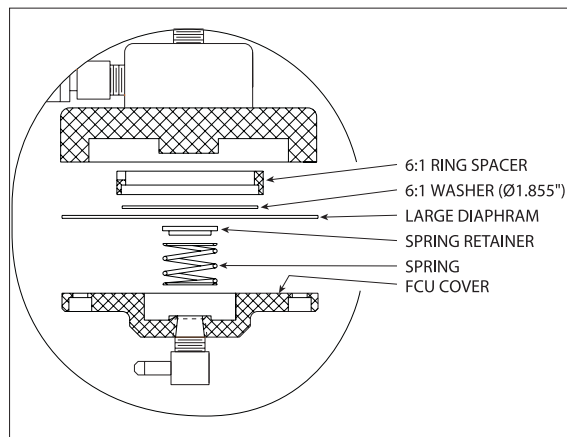

Fig. 7.1-a
- F. Place the spring retainer in the center of the diaphragm with the spring between it and the cover. (See Fig. 7.1-a.)